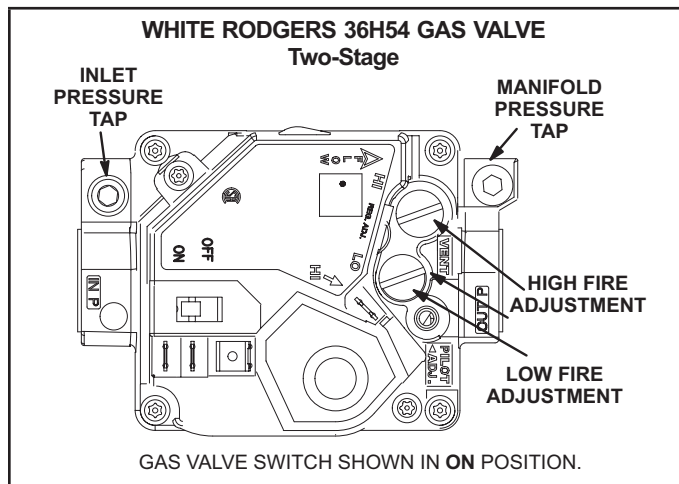
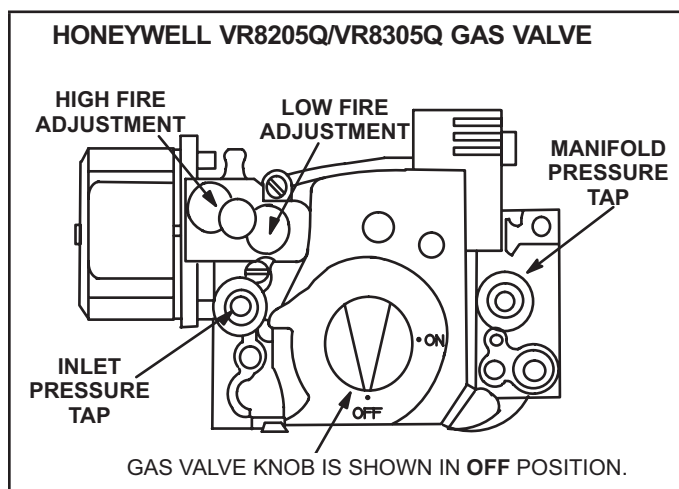

FIGURE 32
FIGURE 33
Gas Valve Operation for Honeywell VR8205Q/VR8305Q and White Rodgers 36H54 (FIGURE 32 and FIGURE 33).
- 5 - Turn gas valve switch to **OFF**. See FIGURE 32. On Honeywell VR8305Q gas valves, turn the knob on the gas valve clockwise to **OFF**. Do not force. See FIGURE 33.
- 6 - Wait five (5) minutes to clear out any gas. If you then smell gas, **STOP!** Immediately call your gas supplier from a neighbor's phone. Follow the gas supplier's instructions. If you do not smell gas, go to the next step.
- 7 - Turn gas valve switch to **ON**. See FIGURE 32. On Honeywell VR8305Q gas valves, turn the knob on the gas valve counterclockwise to **ON**. Do not force. See FIGURE 33.